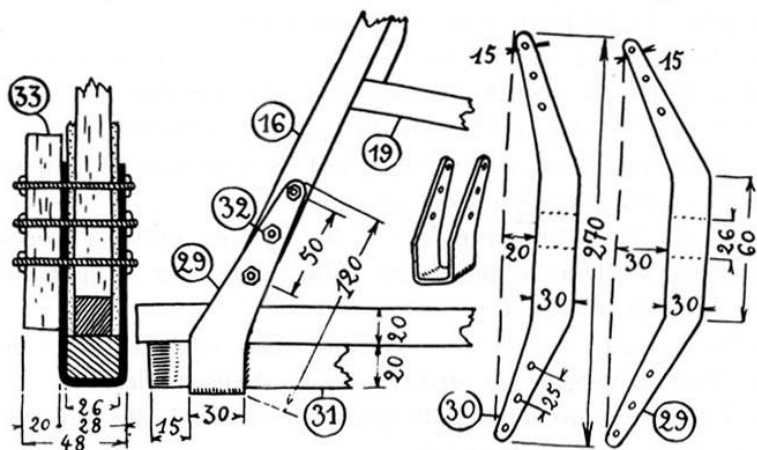

Figure 3.6: Landing gear reinforcement
In a sheet of 1mm soft steel, cut two strips (29) and (30), which, when bent, will be held in place by gluing under the lower ends of members 15 and 16 a pad, (31) (fig. 3.6) of hardwood — walnut, oak, beech, etc. — $20 \times 26 \times 230$. Only drill one side of these fittings for now. The other side will be drilled later when it is bound or clamped in place.